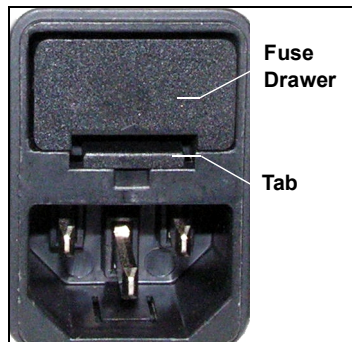

Figure 10-13. Fuse Drawer
4. The fuse drawer is located above the power receptacle (see Figure 10-13). A small tab locks the fuse drawer in place. Using a small screwdriver, press the tab *in*, and *then up*, to release the fuse drawer.